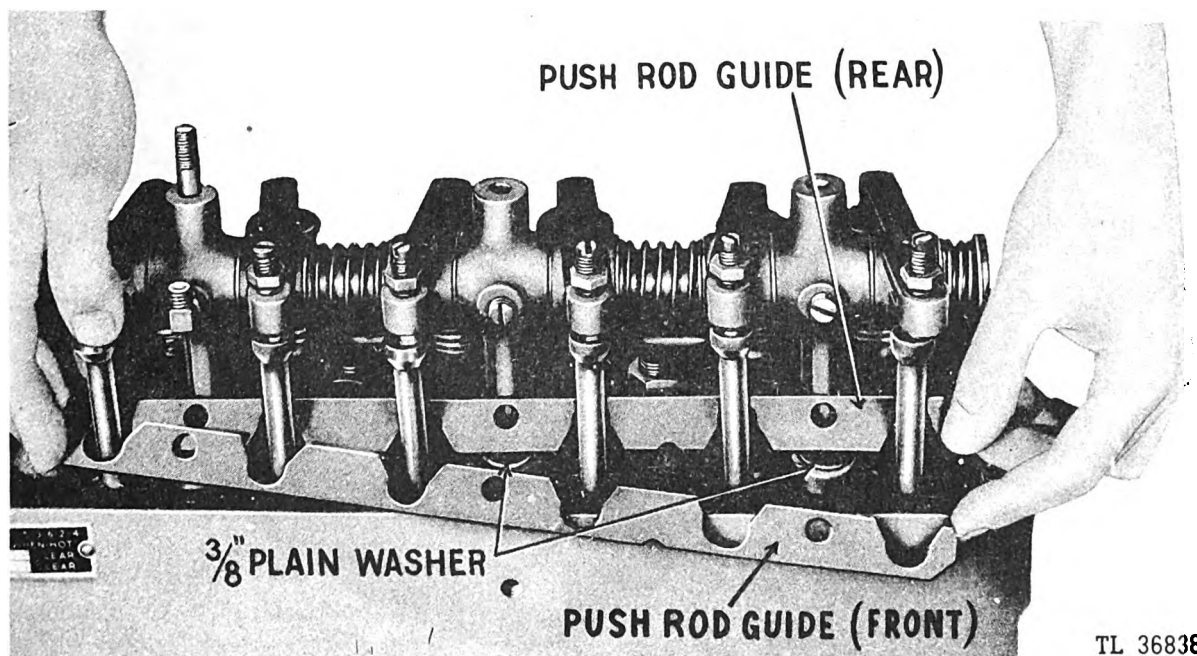

Fig. 186. Installing Push Rod Spacer Plates
(6) Lay three  $\frac{3}{8}$ -inch washers on the push rod side of the brackets for spacers and install the push rod spacer plates as shown in Figure 186. The rear push rod spacer plate has the mounting holes located in a different position than the front push rod spacer plate; that is, the holes in the rear plate are located closer to the rear edge to provide clearance between the rocker arm brackets and the plate. (See Figure 186.) Install the rest of the rocker arm bracket capscrews and tighten.